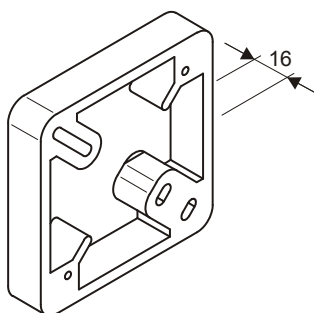
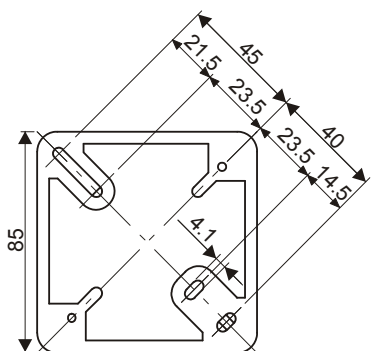

Fig. 4
Fig. 5
1. Mount the additional frame AI330 (accessory) on a wall or recess-mounted socket using two screws with max. diameter of 4 mm (Fig. 4, Fig. 5).